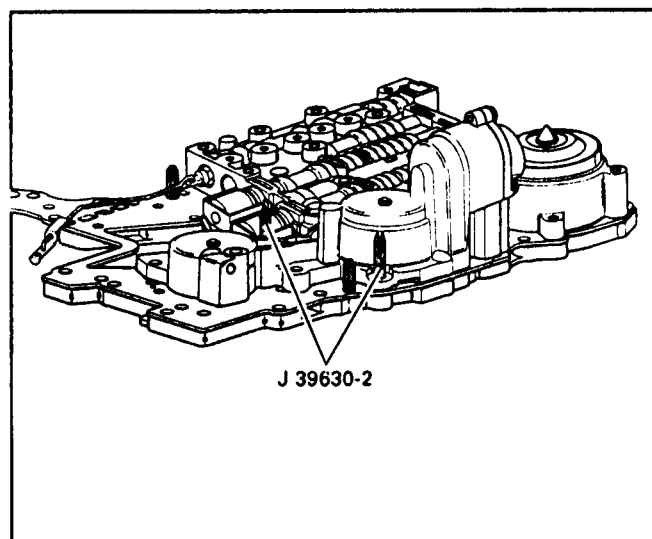

Figure 87
13. Install guide pins J-39630-2 in channel plate for accumulator housing (See Figure 87).